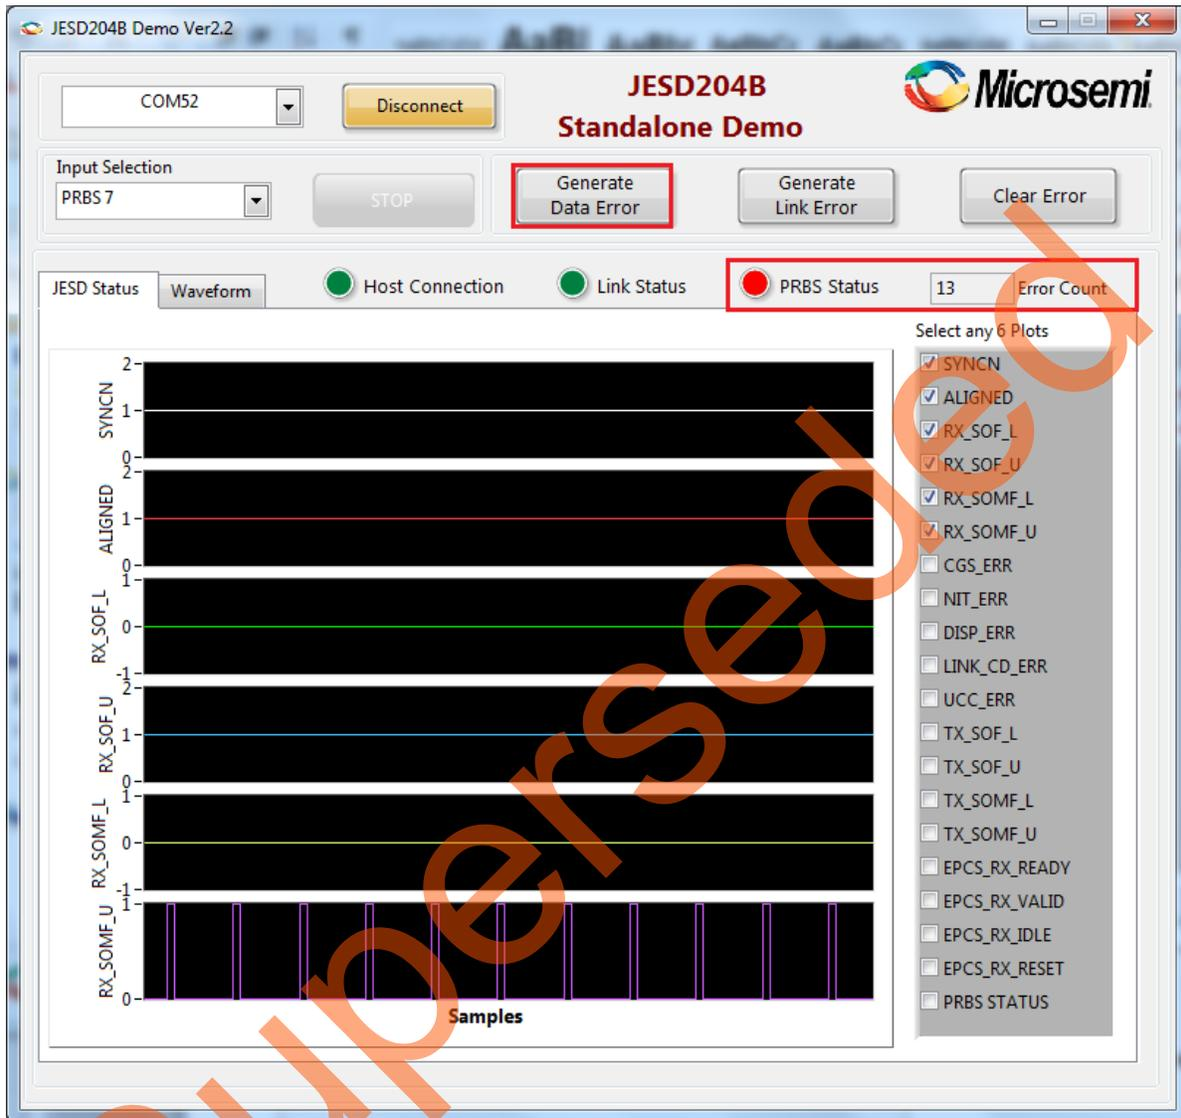

Figure 15 • Data Error Generation
- Click **Generate Data Error** and observe error status using GUI. Figure 15 shows the Host Connection, Link Status, PRBS Status, and Error Count.